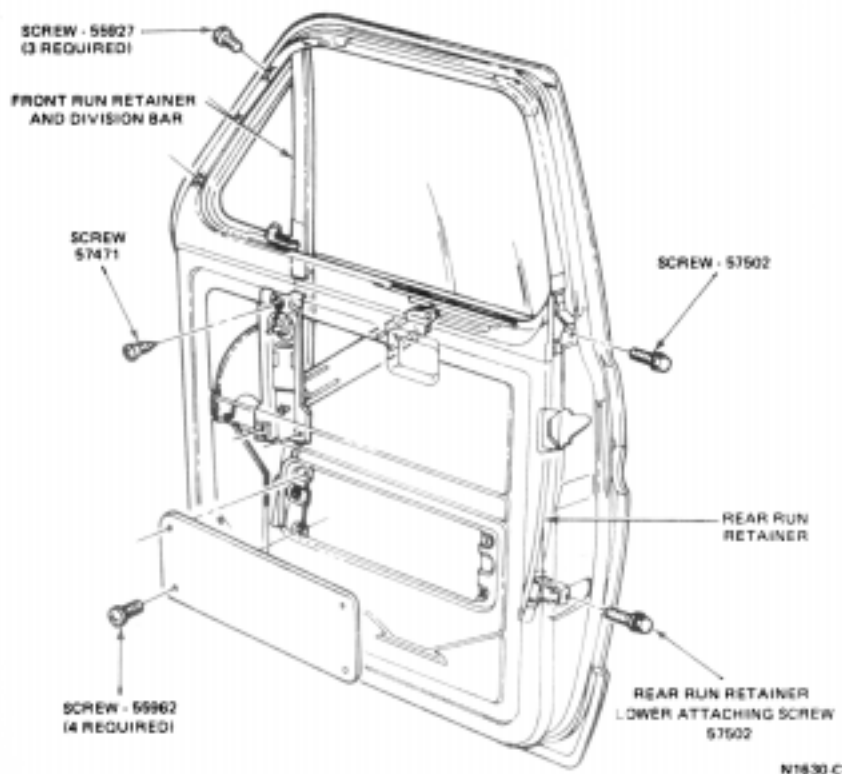

FIG. 1 Front Door Window Glass Adjustment—Econoline
3. Loosen the front run retainer and division bar lower attaching screw and the rear run retainer lower attaching screw (Items C and D, Fig. 1).
4. Lower the window glass until the top edge of the glass is approximately four inches above the belt line (Fig. 1).